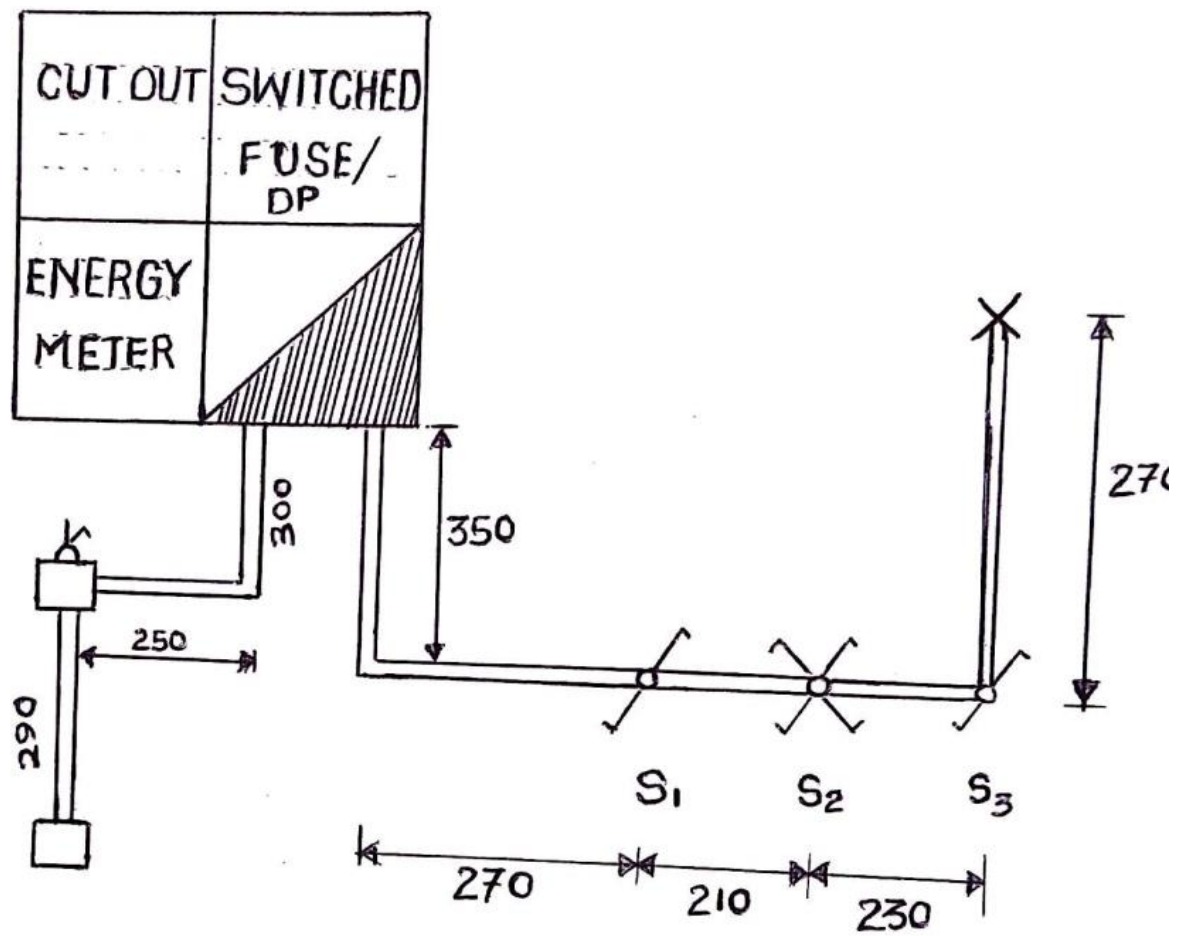

Figure 1
2. Figure 1 shows a layout diagram of the final sub-circuit. Draw a wiring diagram such that switches *S1*, *S2*, and *S3* control lamp *Q* independently